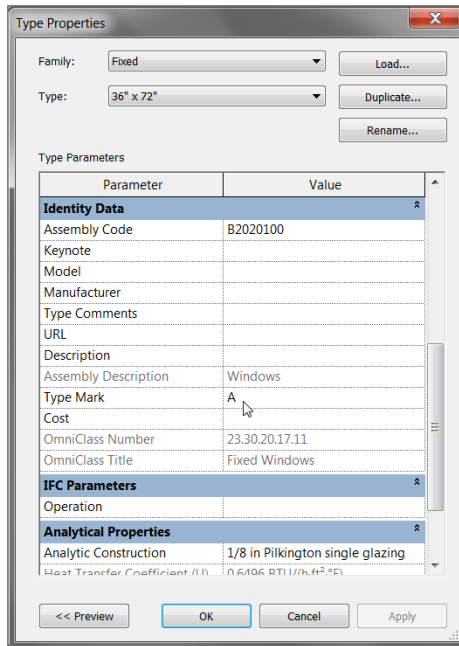

FIGURE 2.81: Changing a type parameter changes every window of that type.
3. Scroll down until you see Type Mark. Notice that this value is set to A. This is the property you changed by typing the value into the tag in the model. Window tags read the Type Mark property by default, whereas door tags read Mark, which is an instance property. In either case, Revit works both ways. If you change a tag value in the model, it changes the parameter value in the tagged object or tagged family (see Figure 2.81).